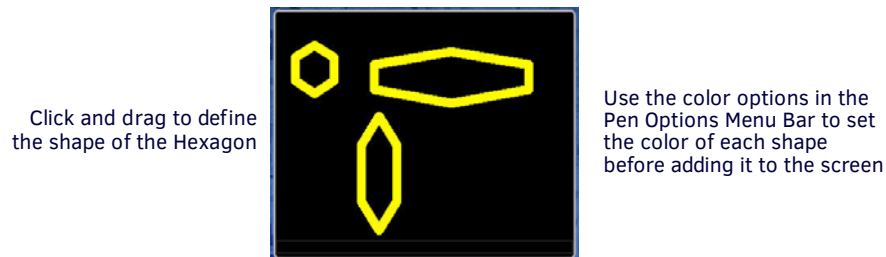

FIG. 102 Drawing Hexagons
- **Hexagons** - The diamond tool draws equilateral hexagons (FIG. 102):